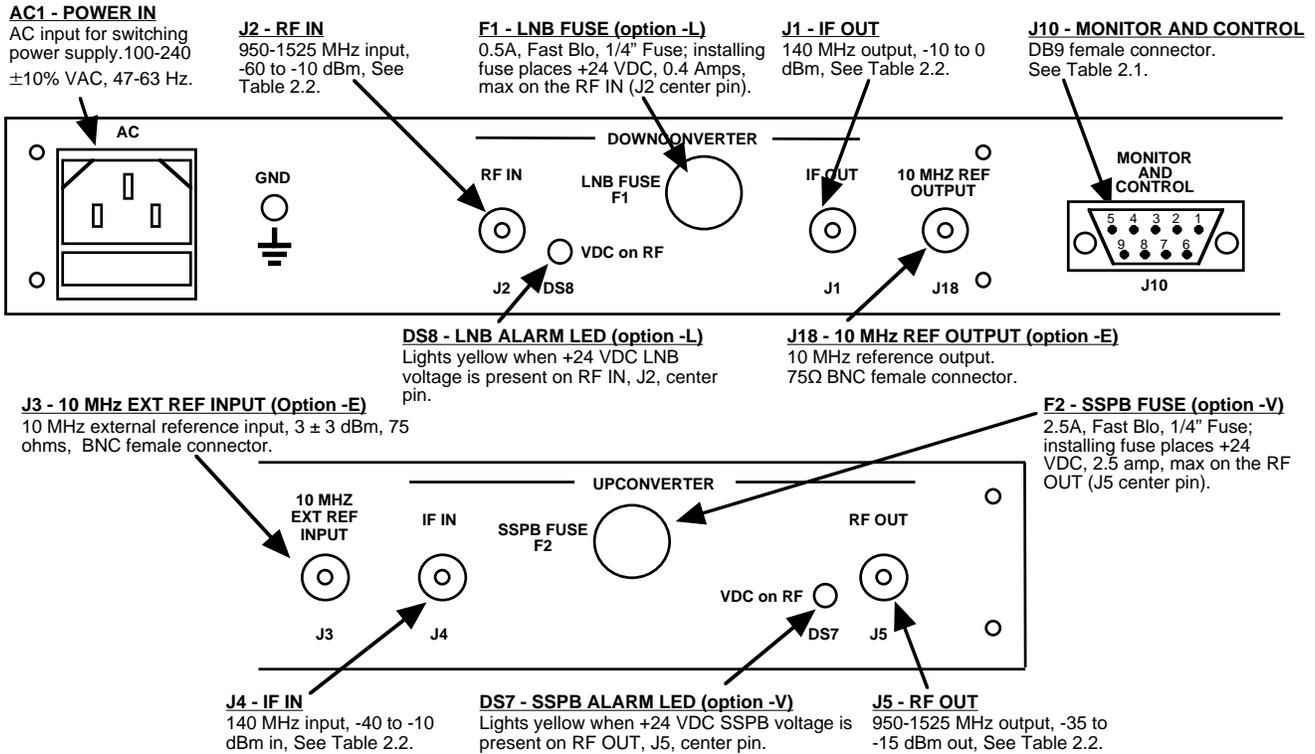

Figure 2.1 Model 2017-05A Rear Panel I/O's
Figure 2.1 shows the input and output connectors on the rear panel.
- 1.) Connect a -40 dBm to -10 dBm signal to IF In, J4 (Figure 2.1).
- 1.) Connect a -60 dBm to -10 dBm signal to RF In, J2 (Figure 2.1).